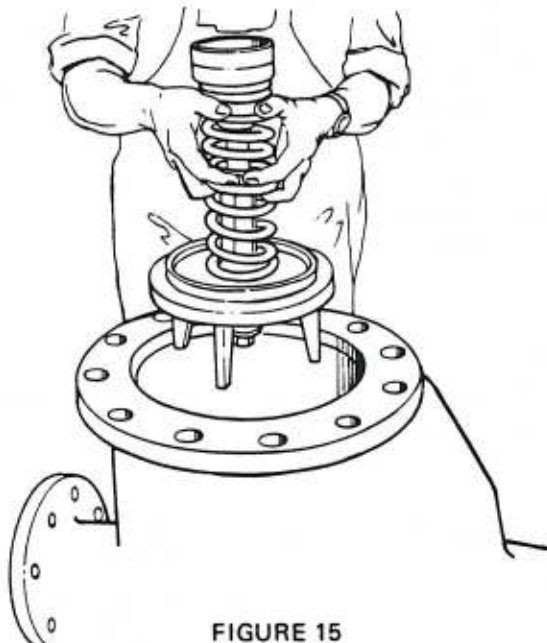

FIGURE 15
1. Remove valve assembly from body (Fig. 15).
2. Loosen spring retainer nut (7).
3. Compress spring retainer (8) by hand. Remove spring retainer nut.
4. Release hand and remove retainer and spring (1).